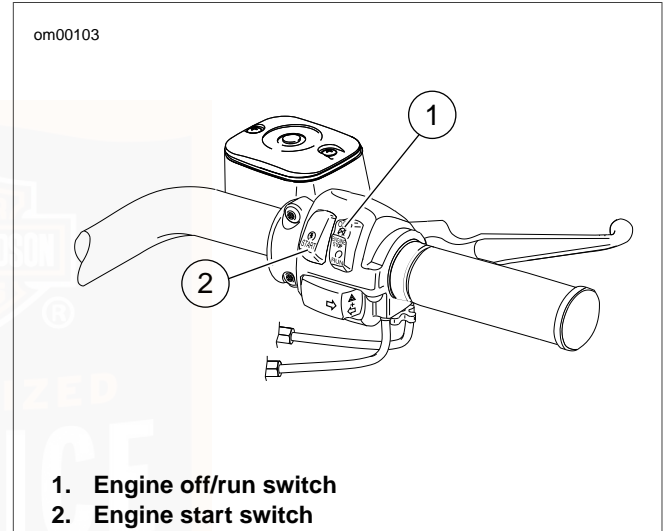

Figure 29. Right Handlebar Controls
2. See Figure 29. Turn the off/run switch to RUN position.